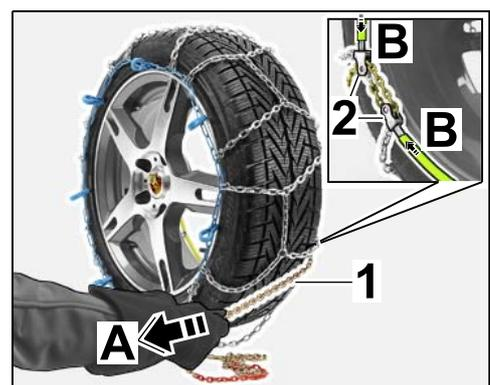

Figure 8
2.2.3 Grasp tensioning chain in the wheel running surface area and pull it firmly (\Rightarrow *Figure 8-A-*).
The spring steel clip on the inside of the wheel closes (\Rightarrow *Figure 8-B-*).